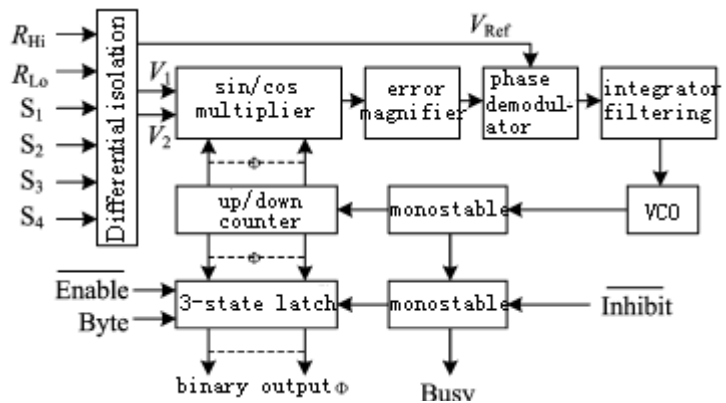
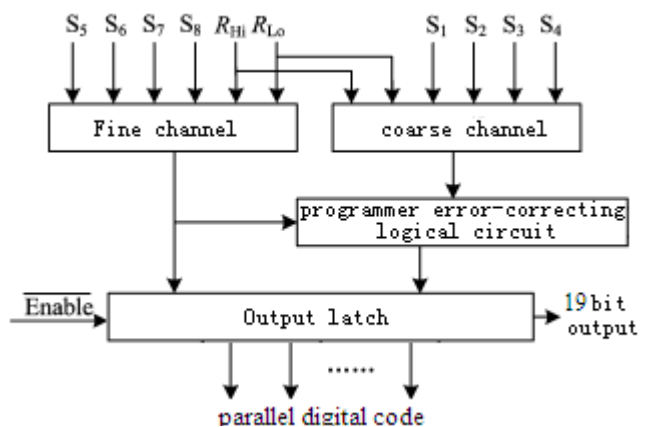

Figure2 Functional block diagram of single speed converter
Figure3 Functional block diagram of 2-speed converter
### 5 PRINCIPLES OF OPERATING ( Fig 2, Fig 3 )
The principles of operation of single speed converter are shown in fig2. Principles are summarized as follows: Internal differential isolation converts input signals of synchro(resolver) into orthogonal signals:
i.e. increase multiple of data speed ratio in coarse channel. Then combine and correct data from fine channel and treated data from coarse channel. Finally get binary code output(fig.3).